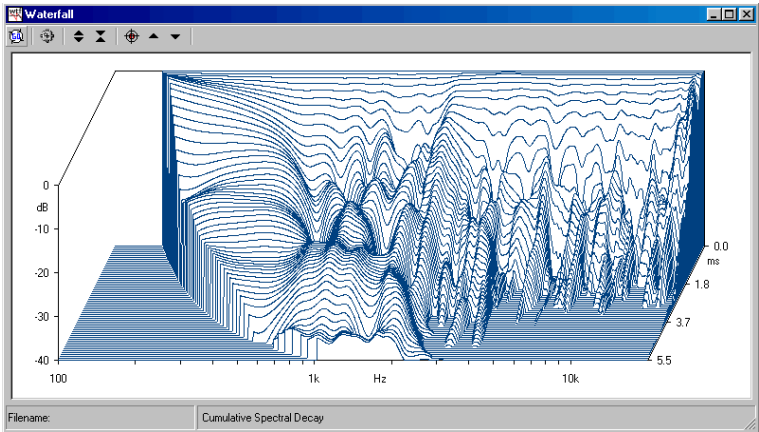
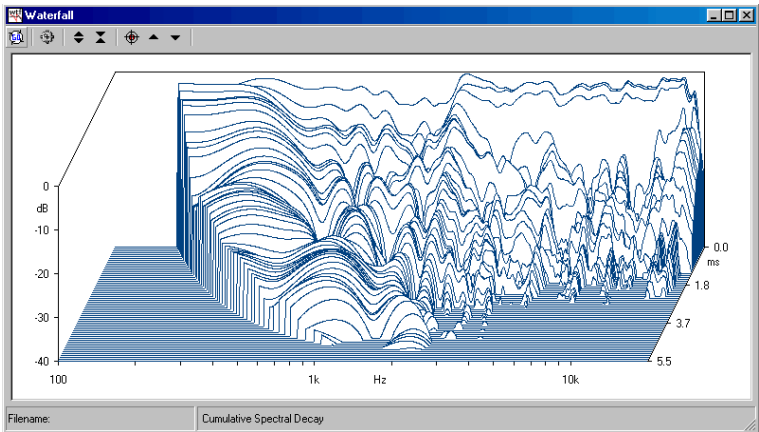

Figure 12.8
Figure 12.9
Let's now change the CSD aspect again. Go to the waterfall settings dialog and check the Reference box. After recalculating, you obtain the plot in Fig.12.8; as you notice now the slices are referenced to the first one (the rearmost); decays of different frequency regions can now be more easily compared. Now change the Windows Rise Time from the default 0.58ms to 0.1ms and recalculate the CSD. The result is given in figure 12.9.
- 3) Recall the turntable control dialog (Fig.12.9), set Resolution at  $5^{\circ}$ , Speed at 0.75 RPM and press Link To Measurement